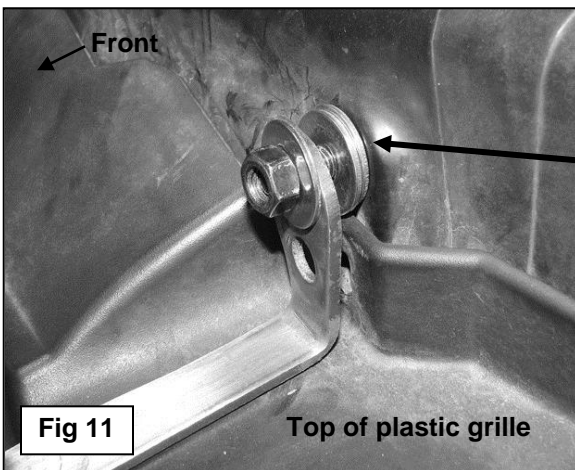

Fig 11
(Figure 8). Insert (1) 8mm "Z" Bolt Plate through the back of the crossmember and out of the hole, **(Figures 9 & 10).** **NOTE:** The back of the crossmember may be obstructed. Carefully move the coolant tank or air intake if necessary to access the back of the crossmember. Use (2-3) 8mm x 16mm Flat Washers on the "Z" Bolt Plate as a spacer between the crossmember and the Top Bracket, **(Figure 11).** **NOTE:** It may be necessary to push down slightly on the top of the plastic grille to provide clearance for the Spacer Washers. Secure the Top Bracket to the 8mm Bolt Plate using (1) 8mm x 16mm Flat Washer, (1) 8mm Lock Washer and (1) 8mm Hex Nut, **(Figure 11).** Insert the factory screw through the hole in the Top Bracket, **(Figure 12).** Leave hardware loose at this time. Repeat this Step for passenger side installation.